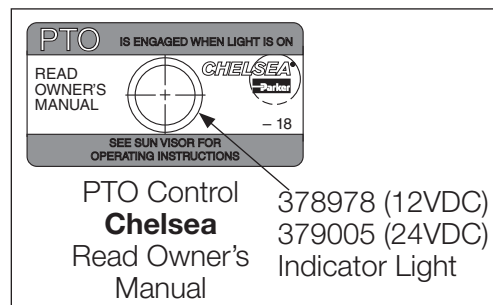

Figure 21
5. Install the control plate (68-P-18) stick on decal and indicator light on the dash using the hardware supplied in the 328751-1X installation kit (**Fig. 21**).